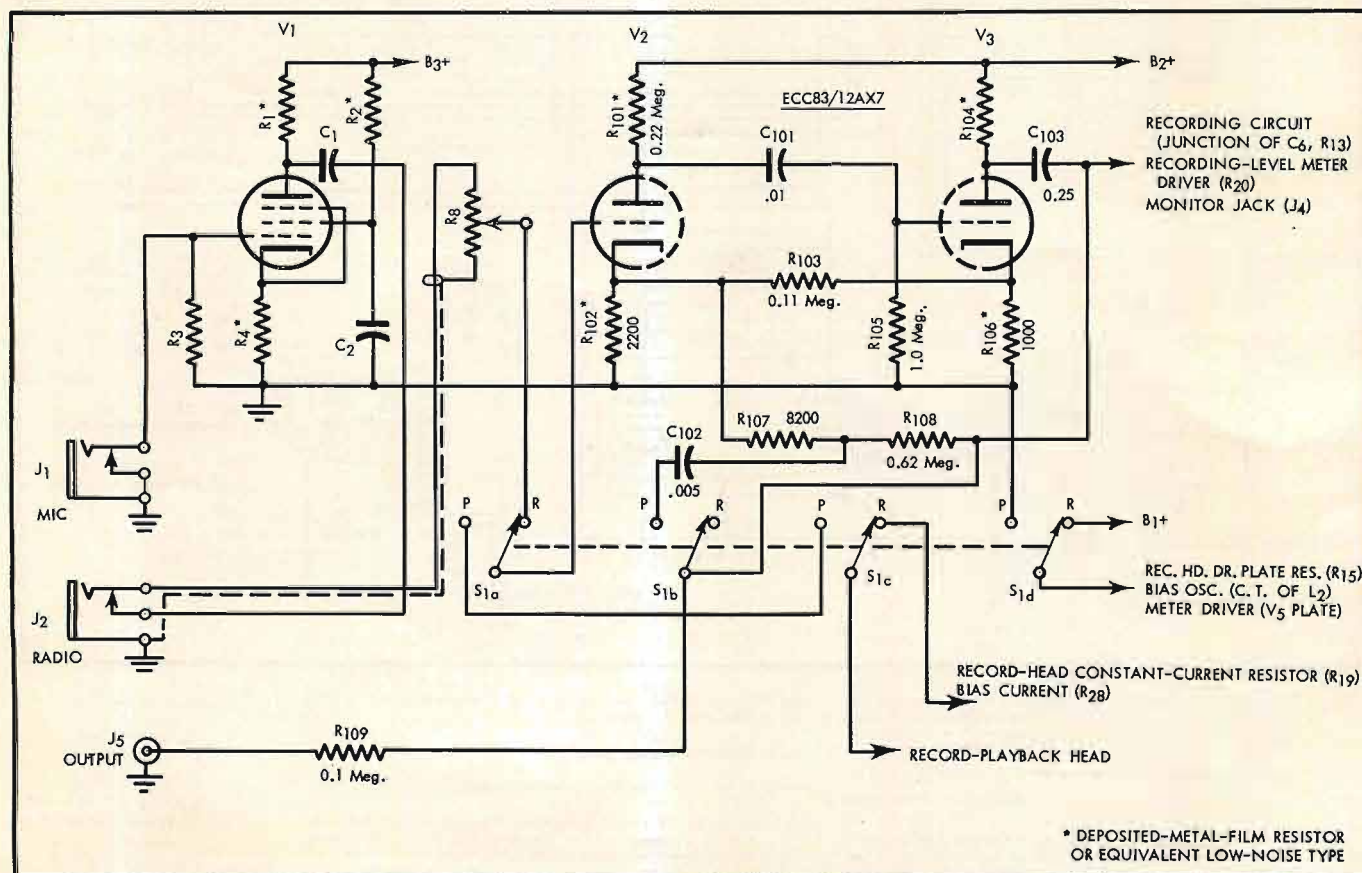

Fig. 2. When the amplifier is converted as described, it results in this arrangement.
The Brush BK-1090 record-playback half-track head was used. It is of laminated-core construction, which minimizes eddy current losses; has a nominal .00025 in. gap, permitting good response to 15,000 cps at 7.5 ips; and has two coil windings, which are hum cancelling when properly connected in series or parallel for the audio signal. It was found that the Brush BK-1090, with its windings in series for maximum playback signal, had greater drive requirements than the Dynamu head, so that more voltage gain was required in recording. Therefore V_3 was converted from a cathode follower into a voltage amplifier stage, as shown in Fig. 2; at the same time, equalization was changed from lossy to feedback type, as will be discussed later in more detail.
Originally the plate of V_5 was permanently connected to B_1+ so that the meter would operate in record as well as playback. This permitted comparison of playback levels among various tapes and enabled one to correlate audible distortion with recorded signal level. Unfortunately, if a signal were fed into the amplifier for recording purposes but switch S_1 was left in the playback mode, the meter gave an indication as though everything were set for recording. For this reason the writer accidentally failed on a number of occasions to obtain a desired off-the-air recording. Therefore it was decided to obtain B_1+ for V_5 from the same point as the B_1+ supply for the record-head driver V_4 and the oscillator V_6 , which are connected to B_1+ only in the record mode. This point is the arm of S_{1d} , as shown in Fig. 2.
The circuit revisions in Fig. 2 meet the following objectives: (1) V_3 is converted from a cathode follower to a voltage amplifier to provide the greater gain needed in recording. (2) Output impedance is kept low through negative feedback, thus maintaining high-frequency response and permitting a reasonably long run of cable between the tape recorder and the next component in the audio chain for playback (usually a control amplifier). (3) The volume-control setting does not affect playback equalization; in the original circuit, which employed a lossier type of bass-
One of the problems in using feedback to obtain an equalization curve with a large amount of bass boost, such as the NARTB curve requires, is that at low frequencies the curve tends to lose its accuracy. That is, gain at the low end no longer varies exactly in inverse proportion to the amount of feedback. The feedback factor (ratio between gain without feedback and gain with feedback) is $1 + AB$, where A is gain before feedback and B is percentage of output voltage fed back. At high frequencies, the quantity AB is much greater than 1, so that the feedback factor consists largely of AB ; since A is a constant, it can be said that the gain ratio varies essentially with changes in B . At low frequencies, however, B is very small, and the quantity AB begins to approach 1. Therefore the value 1 can no longer be ignored in the expression $1 + AB$. And the response curve no longer varies exactly with changes in B . In order to keep the quantity AB significantly higher than 1 (at least four times as great) and thus produce accurate equalization, it would be necessary to increase A , that is, gain before feedback. This can be done by positive feedback. The 0.11-meg resistor R_{103} in Fig. 2 produces several db of positive feedback for this purpose.
Having to insert and remove the phone plug continually proved to be a nuisance. Therefore the revised switching arrangement of Fig. 2 was used, which enabled the phone plug to be left in J_2 during playback. V_1 is now permanently connected to the microphone input jack J_1 . Only V_2 and V_3 are used for playback; more will be said about this shortly. In playback, the volume control R_8 and the input jack J_2 are disconnected from the circuit by S_{1a} . Prior to this change, the gain control had always been left in maximum position during playback. Since the change, the lack of command over playback gain at the recorder (gain is governed by the control amplifier) has caused no inconvenience.
circuit. In the circuit of Fig. 2, however, deposited-metal-film resistors are used for noise reduction. These can be virtually as noise-free as wirewound resistors and about one-third as expensive, costing about one dollar each. Moreover, wirewound resistors have some residual inductance, although wound in a manner designed to cancel inductance. This may lead to pickup of hum or possibly to pickup of the audio signal and consequent positive feedback and oscillation in a high-gain circuit.
In Fig. 2, deposited-metal-film resistors are used as the plate and cathode resistances for V_1 , V_2 , and V_3 . Prior to use of metal-film types, deposited-carbons had been tried for V_2 and V_3 as well as V_1 . But each time a metal-film resistor was substituted for a deposited-carbon one, there was a striking improvement, even in late stages. This is not to say that all deposited-carbon resistors are inferior to metal-film ones. In fact, the writer has been given to understand that there are some deposited-carbon resistors of foreign make which have excellent noise characteristics, closely approaching those of wirewounds. However, his personal experience with American-made resistors has been that deposited-metal-film ones have given far